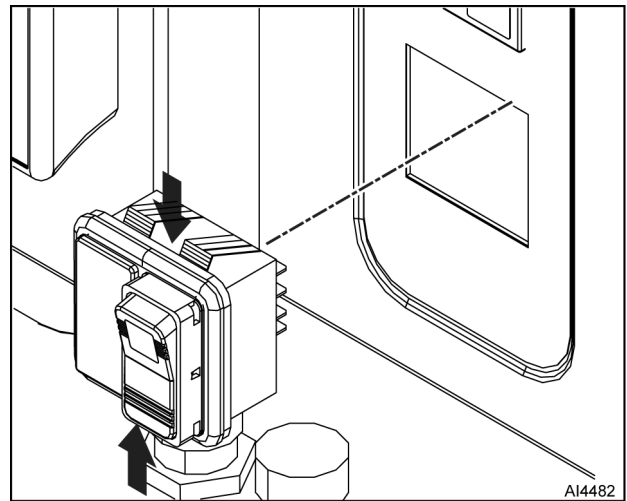

Fig. 58
3. Remove on/off switch (Fig. 58) from front panel.